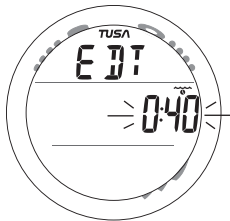

Fig. 42 - SET EDT ALARM
**SET EDT ALARM**, information includes (Fig. 42):